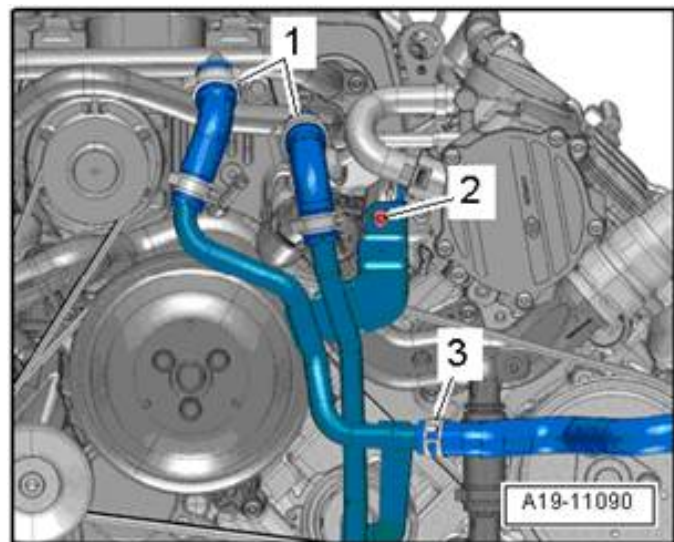

Figure 5. Front coolant pipes to be removed for 3.0T
5. For 3.0T only: remove the coolant supply lines (intercooler of supercharger) in the front of the engine (Figure 5).